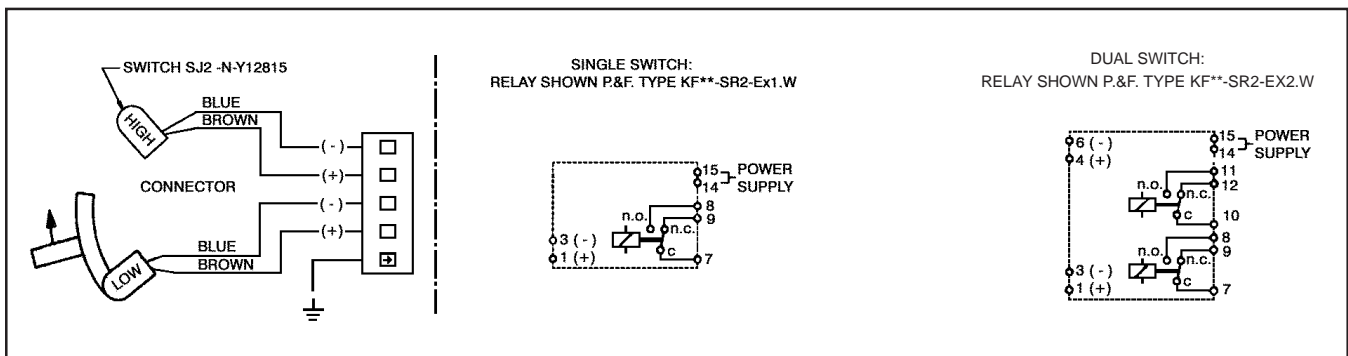

Figure 2-2 Inductive Switch Wiring Diagram
- C. Connect the IS Alarm as shown in Figures 2-2 and 2-3.